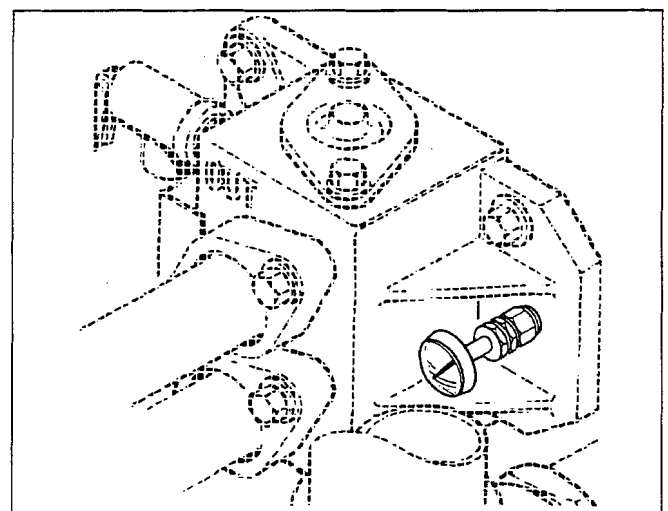

Figure 13. Thermometer installation.
3. After turning off the pump, remove the brass plug at the boiler outlet and install a Petes plug (see Figure 13).